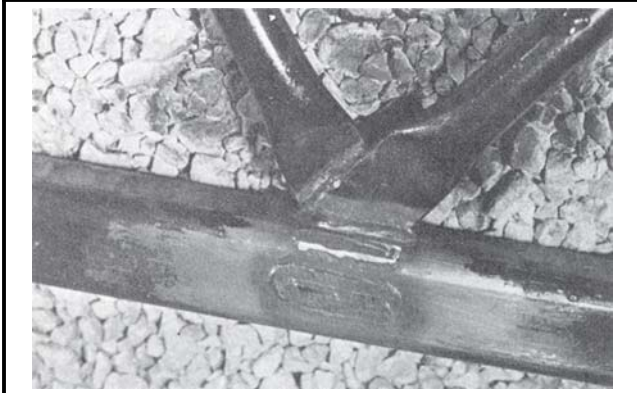
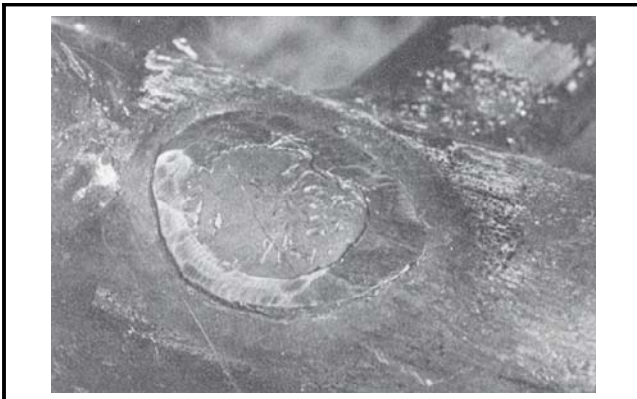

Figure 17
Figure 18
3. Carefully grind weld down to within 0.010 - 0.020 inch (0.3mm - 0.6mm) of the chord surface as shown in Figure 16, Figure 17, and Figure 18. No metal should be removed from the chord member.